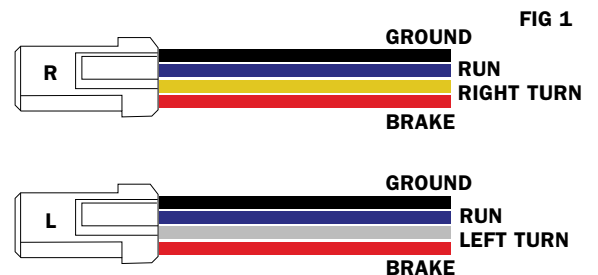

FIG 1
STEP 8 Refer to FIG 1. Locate new turn signals (sold separately). Determine which signal is the left and right. Splice the Left and Right Pigtails to their corresponding lights.